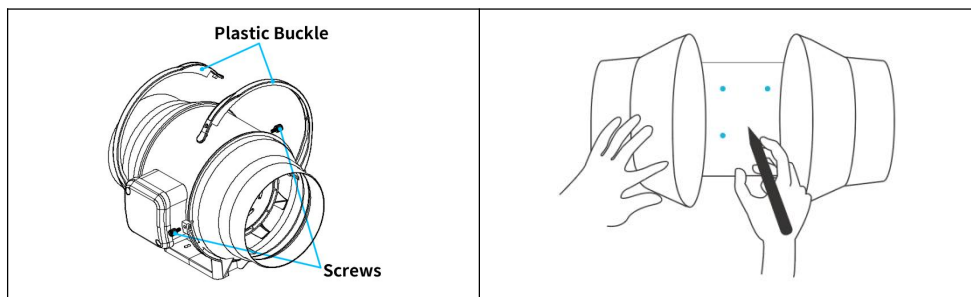

Fig.3.
3.Use the flange bracket to set your desired fan position. Mark the four mounting holes.See the (Fig.3.)